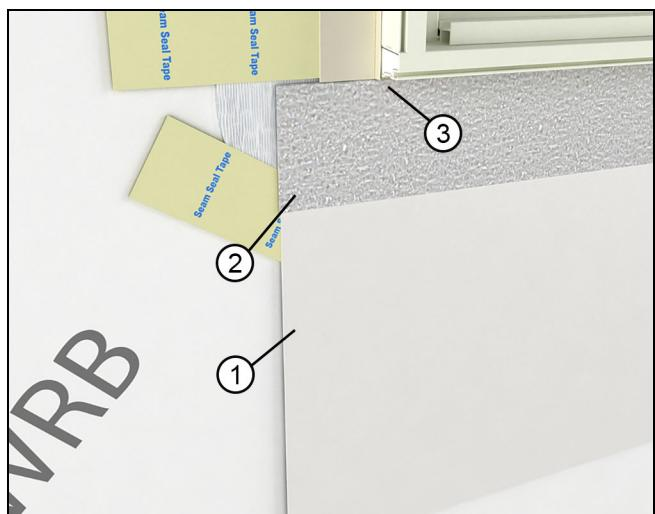

Figure 44
3. Optional Skirt: Install an optional "skirt" in applications with exposure to wind driven rain/climate. Use flashing material or a 12" (305) strip of WRB and attach to the sill of the window with seam seal tape or flashing tape. See Figure 44.